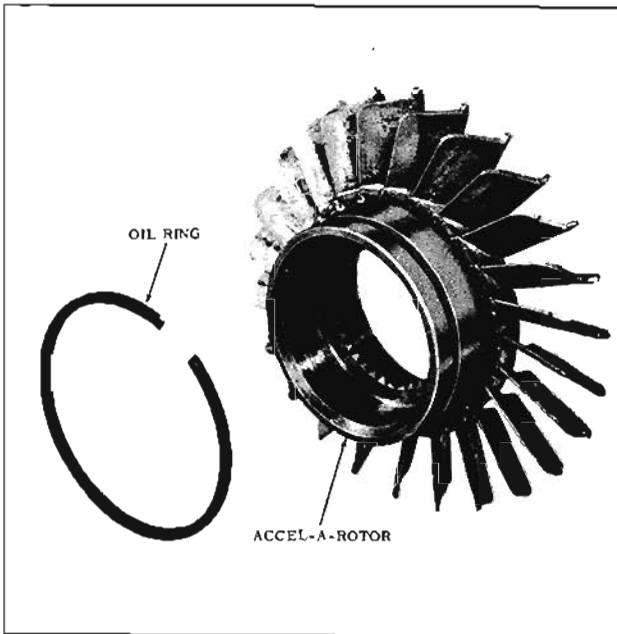

Fig. 6-38 Accel-A-Rotor
15. If necessary, remove oil rings from driven torus member and accel-a-rotor (three rings). (Figs. 6-38 and 6-39)